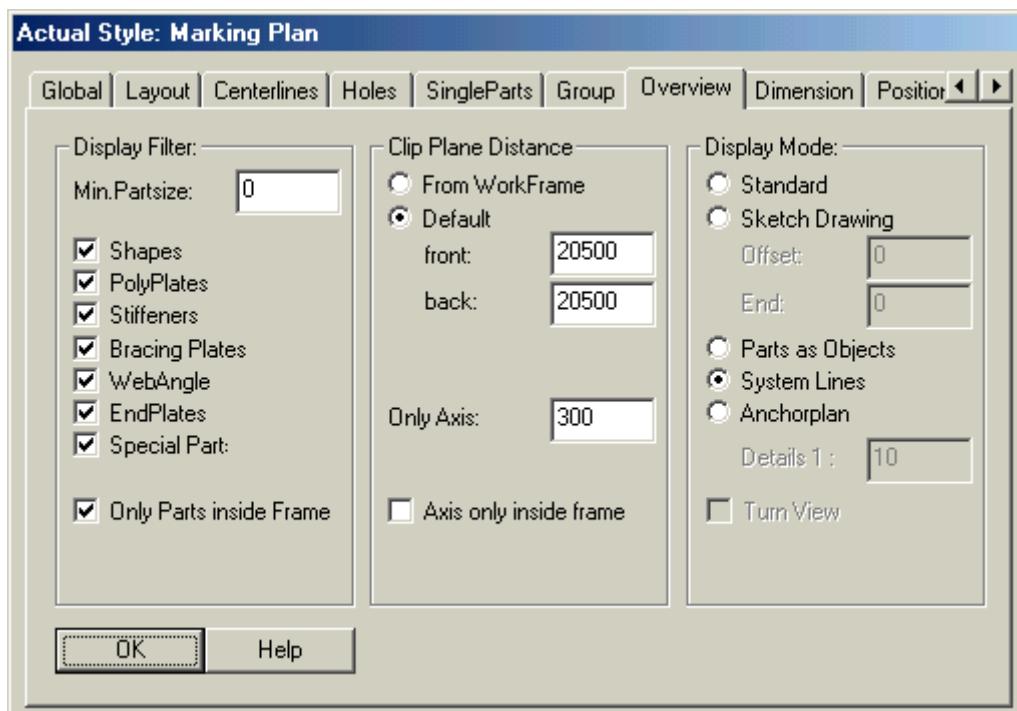

Fig. 32
3. Once you have accomplished this it may be necessary to edit this new style. The Global TAB should already have been changed to American. The TAB named Overview Fig. 32 needs to be filled out like shown below in Fig. 32. I would suggest that you edit this through a preview of the “*Complete Topview*” and then change some of the buttons and see how they alter the preview. Save the Detail style when you are happy with it.